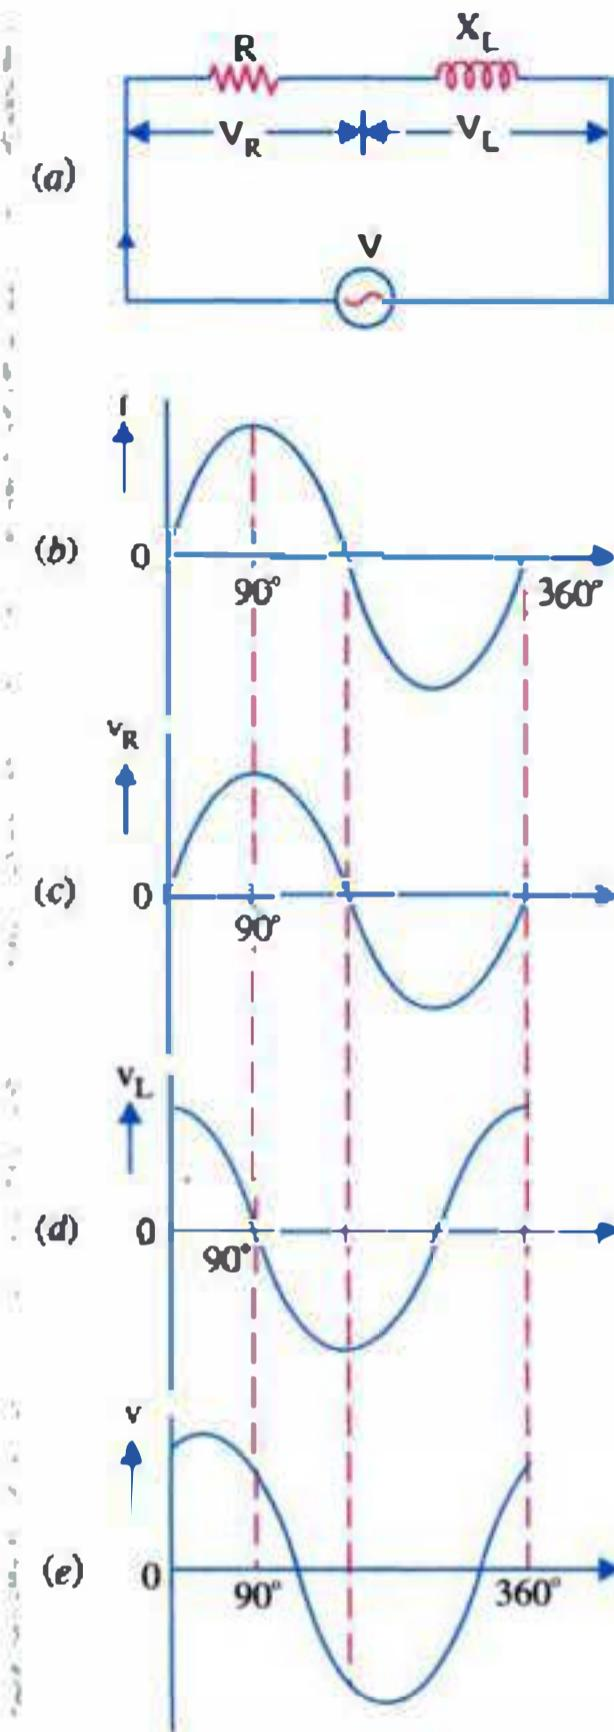

Fig. 9.1
**S**uppose a *pure* coil of inductance  $L$  is connected in series with a *pure* resistance  $R$ \* and is energised by a sinusoidal voltage of r.m.s. value  $V^{**}$  as shown in Fig. 9.1 (a). If we take the current as the reference quantity, then it will give rise to a sinusoidal voltage drop  $v_R$  across  $R$  which will be in phase with it as shown in Fig. 9.1 (c). The voltage drop  $v_L$  across the coil will *lead* the current by  $90^\circ$  as shown in Fig. 9.1 (d). In other words, current through a coil lags behind the voltage across it. The resultant voltage is the vector (or phasor) sum of  $v_R$  and  $v_L$  and as shown in Fig. 9.1 (e), leads current by some angle  $\phi$ . In other words, circuit current lags behind the applied voltage by an angle  $\phi$ .